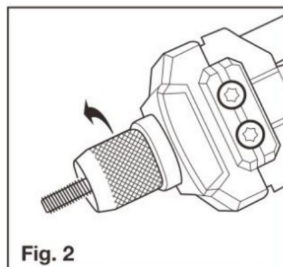

Fig. 2
3. Remove sleeve nut by unthreading anticlockwise. (see Fig. 2)